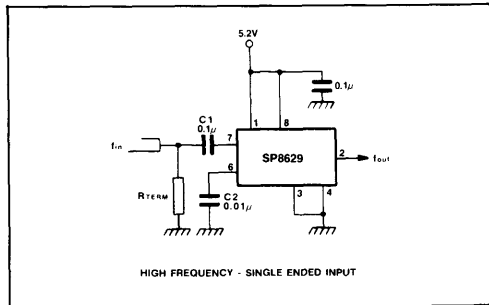

Fig.6 High frequency, single-ended input
- The signal source is usually capacitively coupled to the input as shown in Fig. 6. In the single-ended mode a capacitor of $0.01\mu F$ (C_2) should be connected between the unused input and the ground plane to provide a good high frequency bypass. The capacitor should be increased at lower frequencies. If the input is likely to be interrupted, it may be desirable to connect a $100k$ resistor between an input and ground.